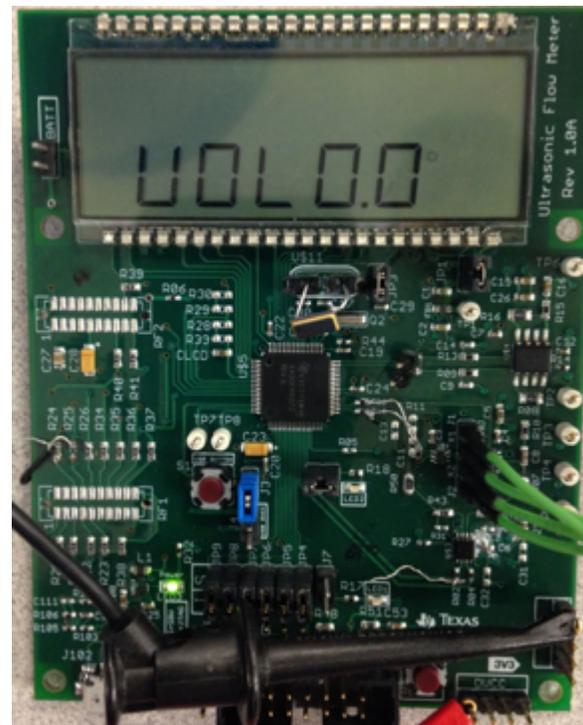

**Figure 8. Flow Meter Test Setup**
- Steps 1–5 validate the signal path of the system with an Audiowell model. The next step is to connect the board to a flow setup to measure the volume of water in gallons per minute. Figure 8 shows a block diagram of the flow setup. This setup utilizes a water reservoir with a motor pump to pump water. The motor offers manual or automatic controls to obtain the desired flow rate. In Figure 8 section the main board and the Audiowell model is connected to test the setup with a reference flow meter. Take care to ensure zero leakage occurs in the flow setup.